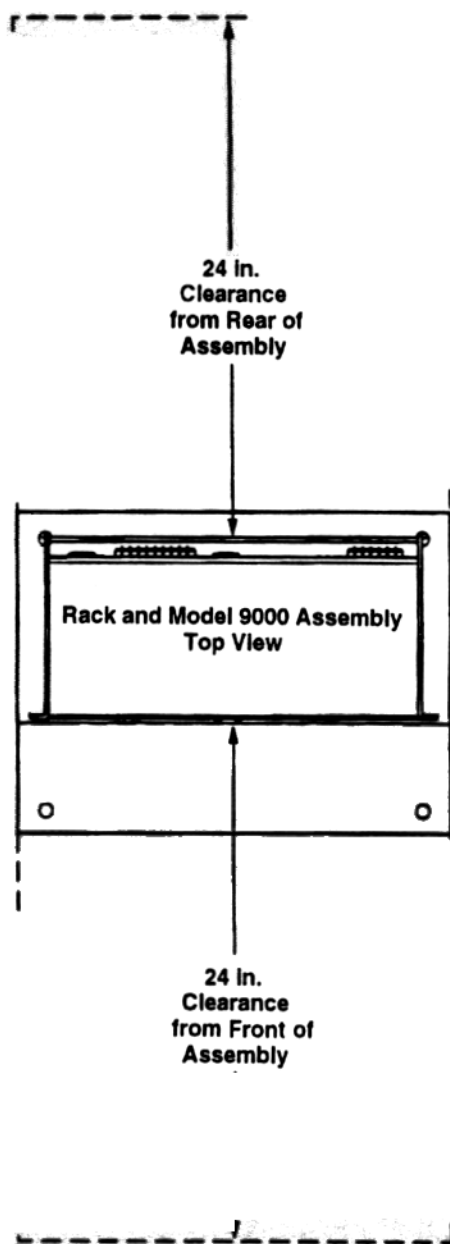

Figure 2-1. Rack Footprint, Minimum Space Clearances
- 2.401 Mount the 9000 assembly in the rack, making sure of the 24-inch minimum space clearances (refer to Figure 2-1), then perform the steps in the following paragraphs to connect it to the facility.